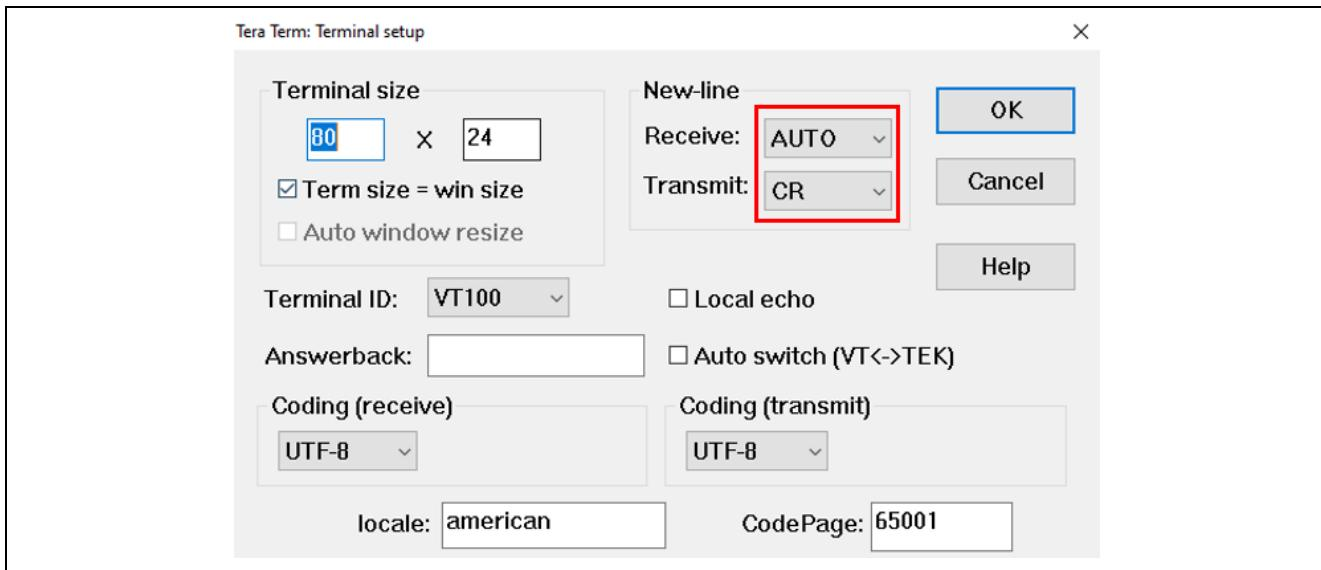

Figure 11. Select Receive: “Auto” and Transmit: “CR” on the Terminal Setting
2. Using the **Setup** menu, select **Setup > Terminal...** and select “**AUTO**” as Receive and, select “**CR**” as Transmit, as shown in **Figure 11**.